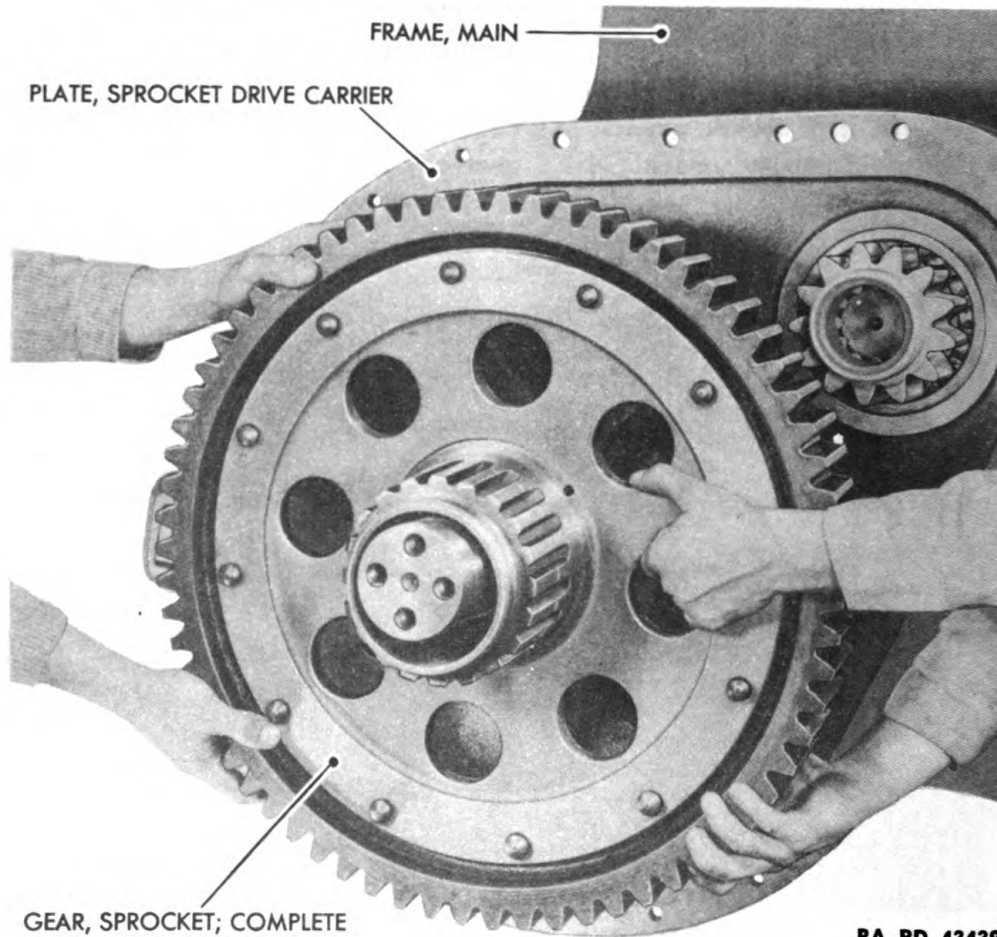

Figure 123 — Sprocket Gear Removal
(7) REMOVE SPROCKET DRIVE GEAR COMPLETE (fig. 123).